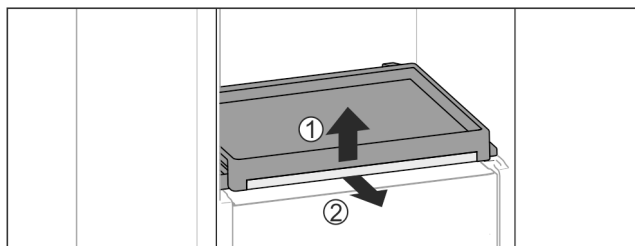

Fig. 153
- To remove the pull-out board with glass panel: Gently lift the glass panel at the front Fig. 153 (1) and pull out to the front Fig. 153 (2).